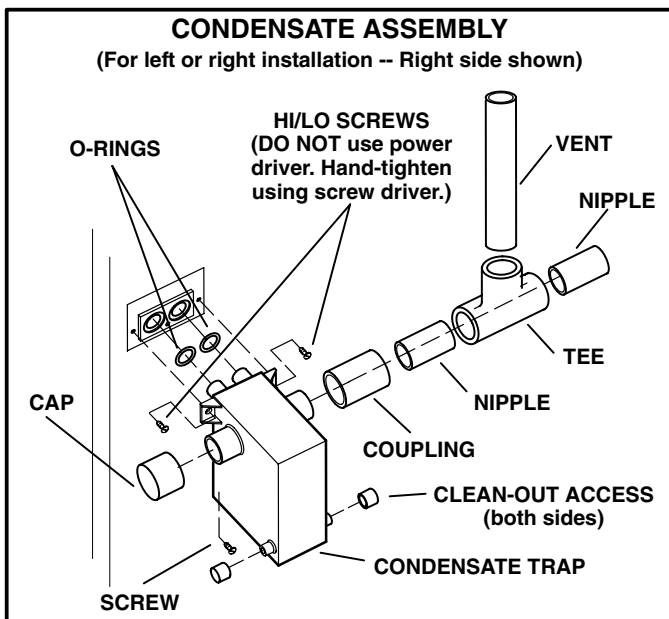

FIGURE 24
- 2 - Install condensate trap onto the condensate collar. Use provided HI/LO screws to secure two upper flanges of the trap to the collar. Use provided sheet metal screw to secure bottom trap flange to side of unit. See figure 24.